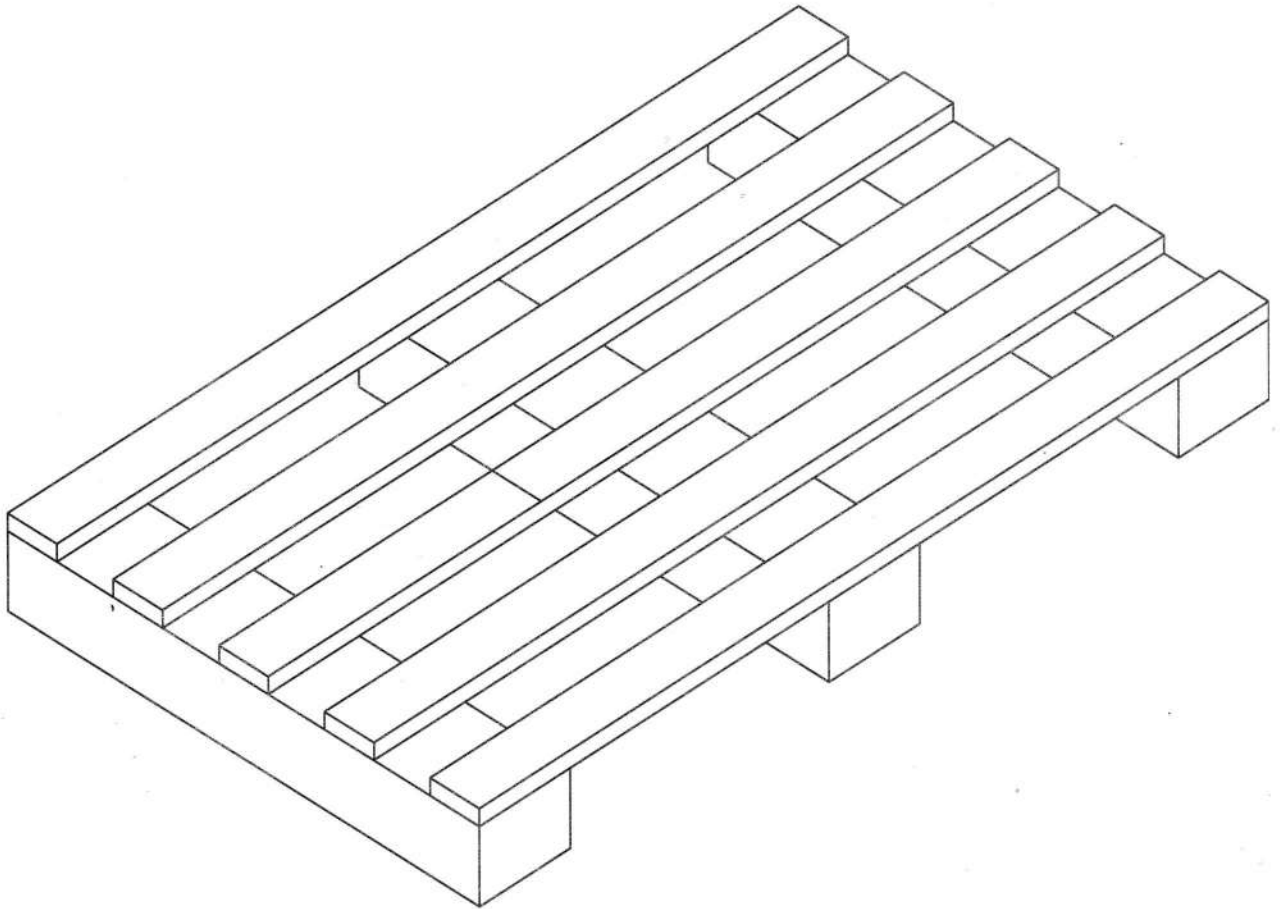

FIG. 23 WOODEN PLATFORM
2. The boxes can be stacked one above the other up to a maximum of four Nos. with a wooden platform as shown in Fig. 23 (WOODEN PLATFORM). We do not recommend the usage of tarpaulin for the floor.